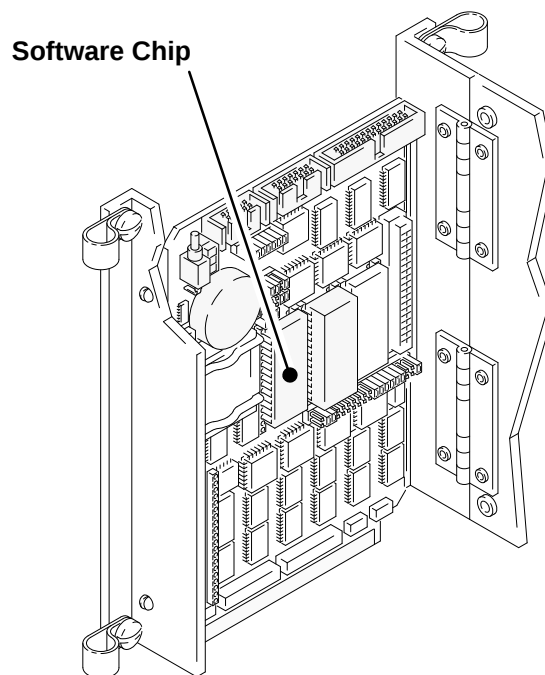

Fig. 10
3. Locate the software chip on the computer card. See Fig 10. Note the direction of the chip and which side of the chip the blank spaces are on.